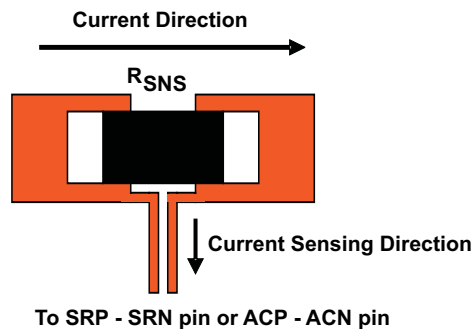

Figure 22. Sensing-Resistor PCB Layout
4. The charging-current-sensing resistor should be placed right next to the inductor output. Route the sense leads connected across the sensing resistor back to the IC in same layer, close to each other (minimize loop area), and do not route the sense leads through a high-current path (see Figure 22 for a Kelvin connection for the best current accuracy). Place decoupling capacitors on these traces next to the IC.